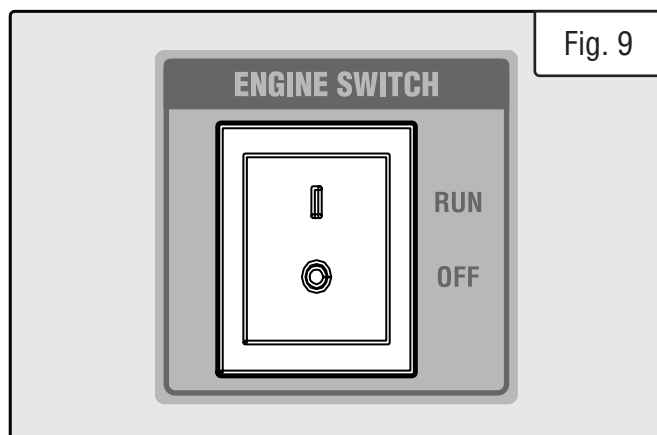

Fig. 9
3. Press the engine switch (Fig. 9 - 1) to RUN.